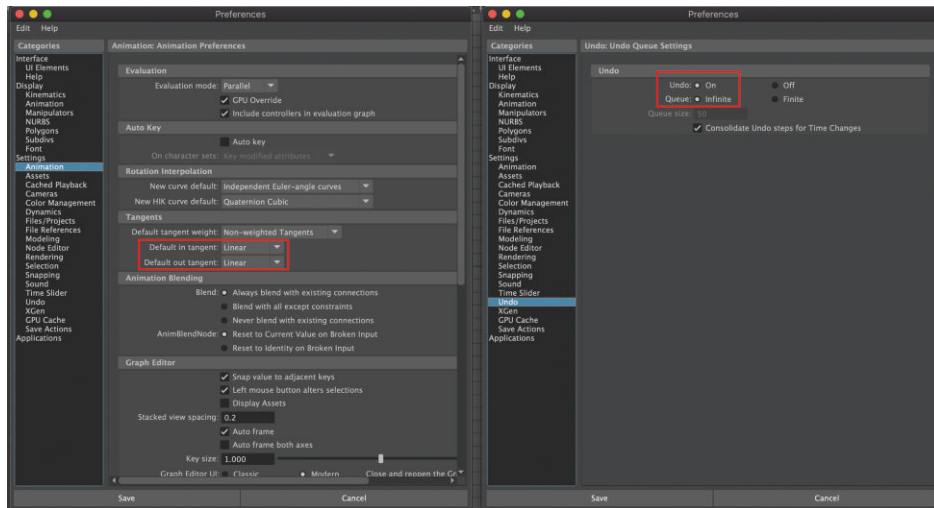

FIGURE 0.7 The Preferences window.
4. Click **[Save]**. (Figure 0.7)